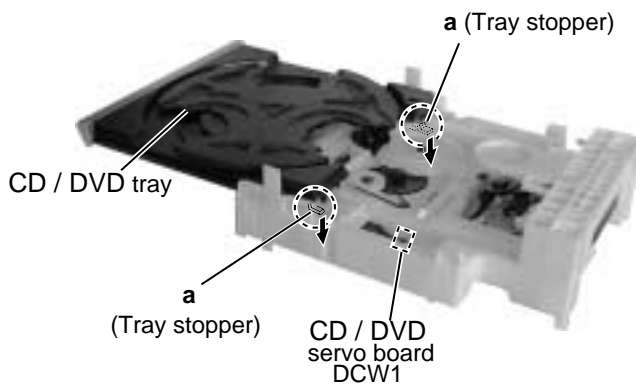

Fig.3
1. Align the gear-cam with the gear-tray as shown fig.3, then mount the CD / DVD tray.